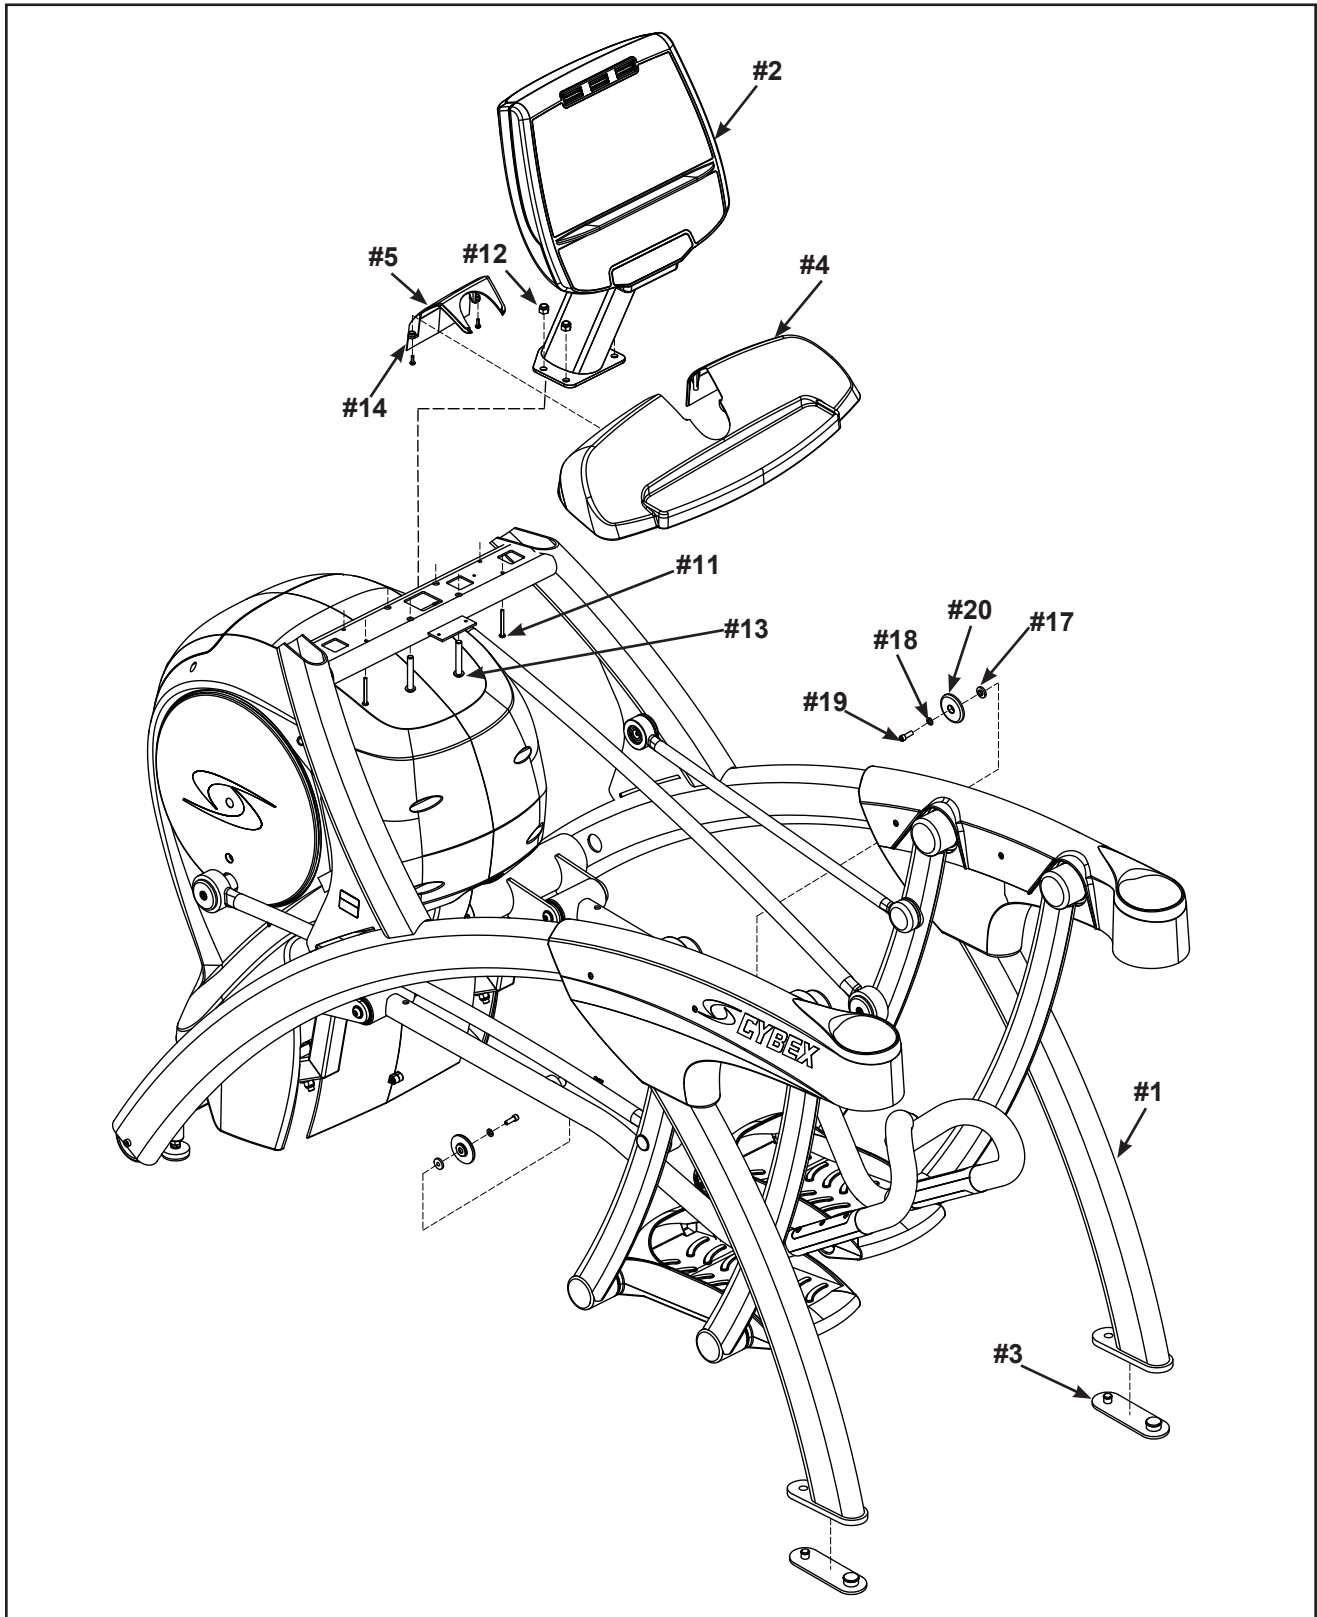

Figure 2b (750AT)
- A. See 750AT hardware pack listings and Figure 2b for 750AT hardware pack contents.